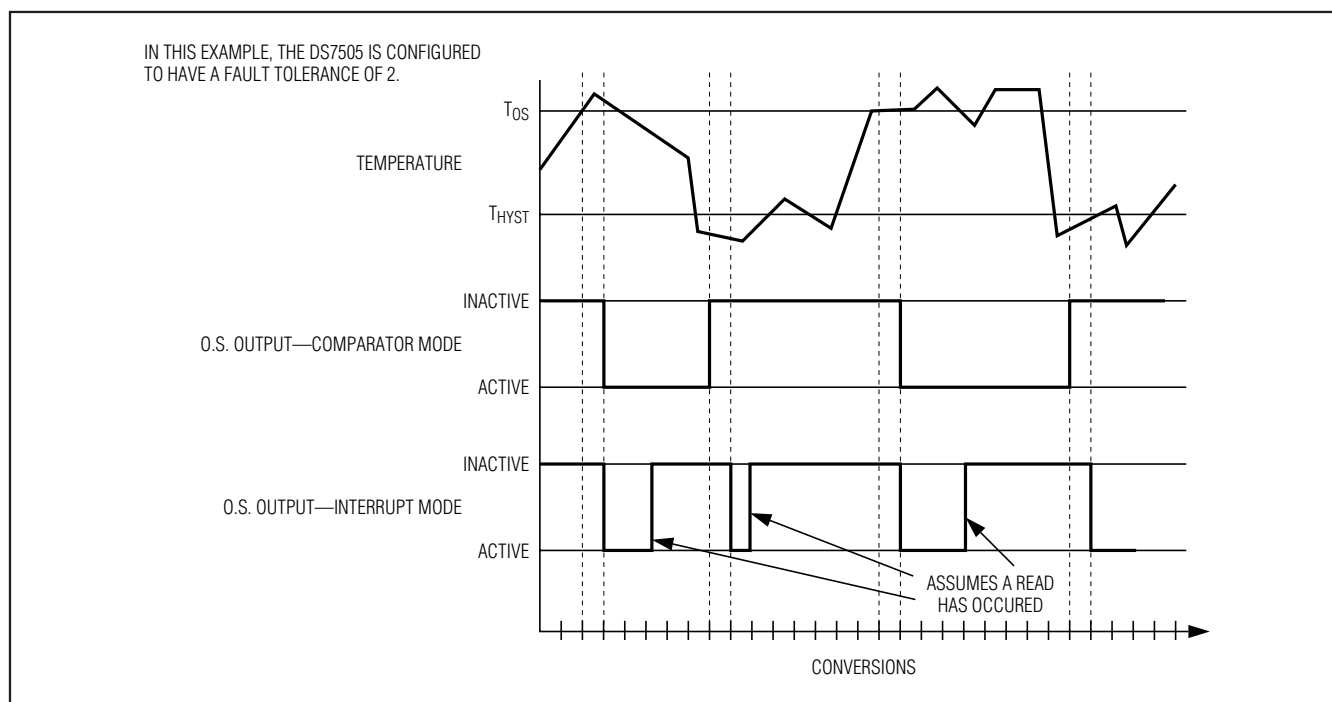

Figure 4. O.S. Output Operation Example
When the thermostat is in comparator mode, O.S. can be programmed to operate with any amount of hysteresis. The O.S. output becomes active when the measured temperature exceeds the TOS value a consecutive number of times as defined by the F1 and F0 fault tolerance (FT) bits in the configuration register. O.S. then stays active until the first time the temperature falls below the value stored in THYST. Putting the device into shutdown mode does not clear O.S. in comparator mode. Thermostat comparator mode operation with FT = 2 is illustrated in Figure 4.
when the measured temperature falls below the  $T_{HYST}$  value a consecutive number of times equal to the FT value. Again, O.S. can only be cleared by putting the device into shutdown mode or reading any register. Thus, this interrupt/clear process is cyclical between  $T_{OS}$  and  $T_{HYST}$  events (i.e.,  $T_{OS}$ , clear,  $T_{HYST}$ , clear,  $T_{OS}$ , clear,  $T_{HYST}$ , clear, etc.). Thermostat interrupt mode operation with  $FT = 2$  is illustrated in Figure 4.